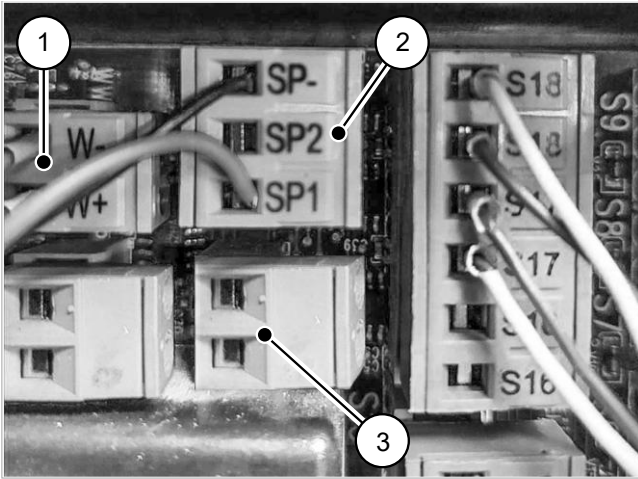

Fig. 5: Connections on mains circuit board SC-3
3. Connect the signal cable to the WW (O5) output (see → Fig. 5) as follows:
1. The gas burner is modulated via output O1 (see → Fig. 5). Reconnect the modulation connections to a two-pin socket strip and plug into output O1.